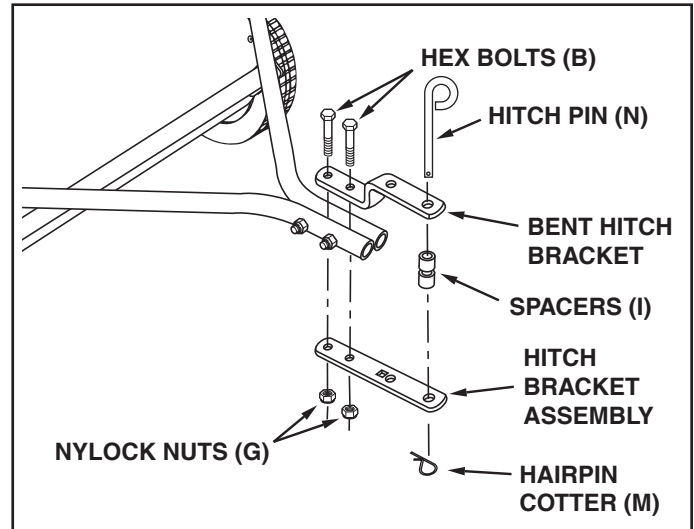

FIGURE 9
- If the tractor hitch is less than 10" above the ground, assemble the hitch brackets as shown in figure 9. Insert two hex bolts (B) through the brackets, with the rear hex bolt between the cross bolts in the hitch tubes. Secure the hex bolts (B) with two nylock nuts (G). **Do not tighten yet.**
- Assemble the two spacers (I) onto the hitch pin (N) and secure the pin with the hairpin cotter (M).
STEP 10b: (SEE FIGURE 9)